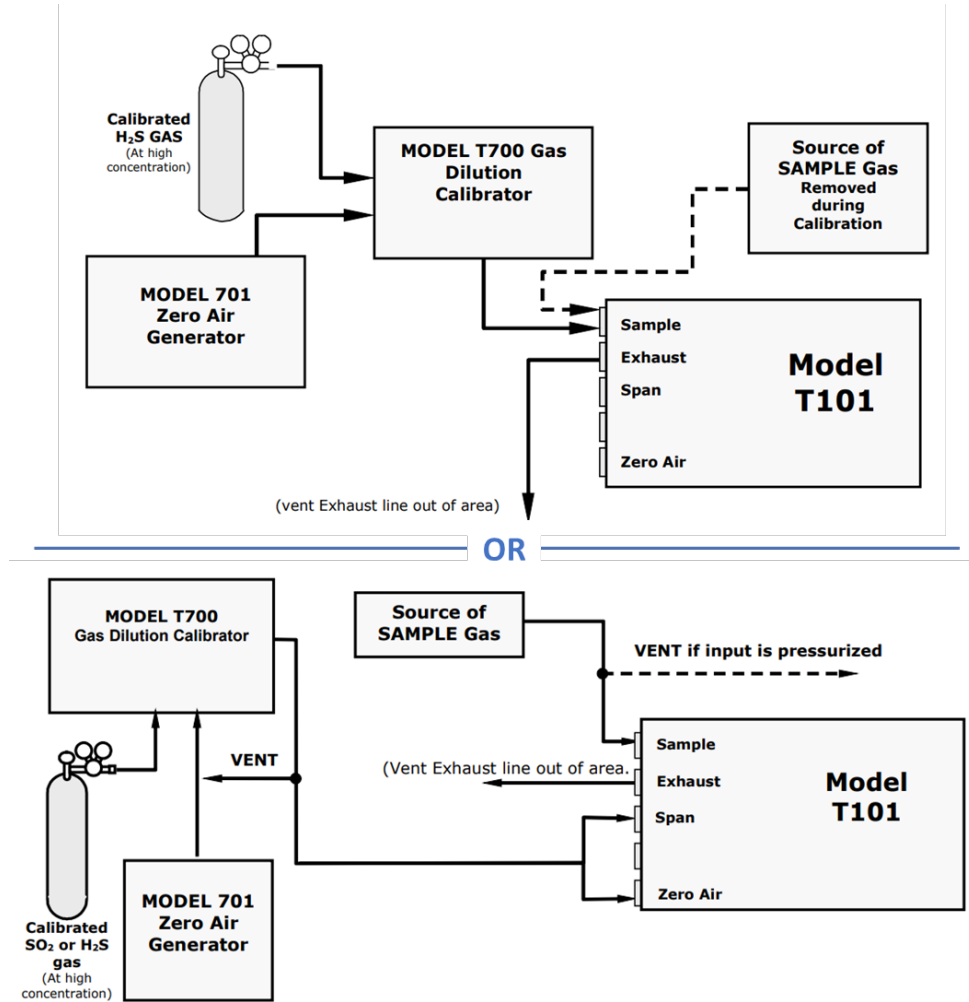

Figure 1. Connection setup for verification and calibration with basic configuration (top) or Z/S valves option (bottom).
2. Connect the sources of zero and span (Z/S) gas as shown in Figure 1, depending on the instrument configuration. The zero air generator can be replaced by a zero air cylinder. If using the T700 dilution calibrator, make sure the calibrator contains the accurate gas standard concentration in the Cylinder Setup menu.
2. Connect the Z/S gas sources as shown in Figure 1, depending on instrument configuration. The zero air generator can be replaced by a zero air cylinder. Make sure the T700 dilution calibrator contains the accurate gas standard concentration in the Cylinder Setup menu.